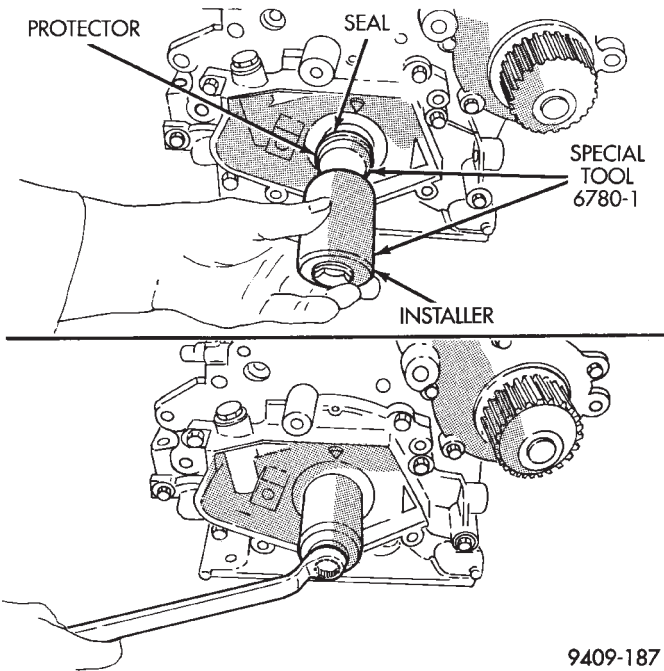

Fig. 68 Front Crankshaft Oil Seal—Installation
- (1) Install new seal by using Tool 6780-1 (Fig. 68).
- (2) Place seal into opening with seal spring towards the inside of engine. Install seal until flush with cover.